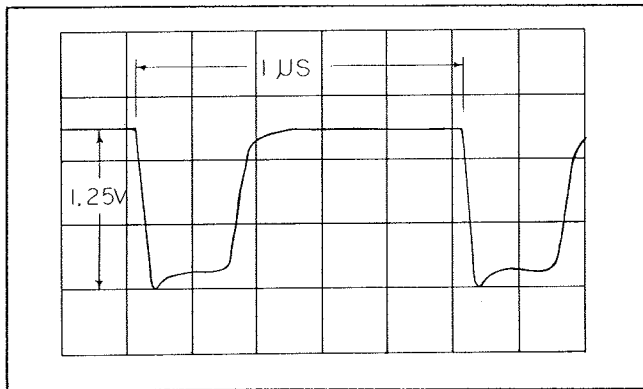
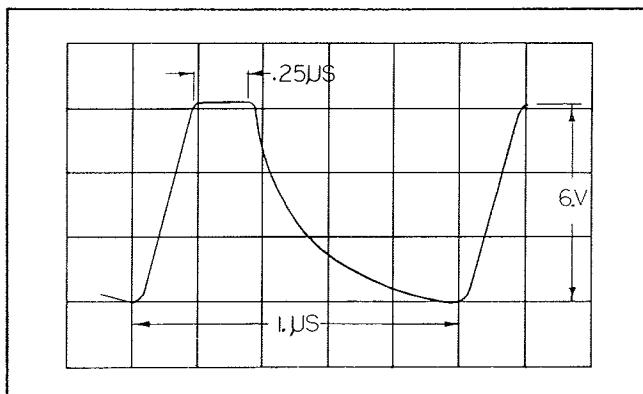

Figure 6.8A - Q1, Base Waveform
Figure 6.8B - Q1, Collector Waveform
b. Reconnect oscilloscope to base of Q1 (left end of R72) the 1 MC waveform should resemble the one shown in figure 6.8A. Reconnect oscilloscope to collector of Q1 (or bottom of R2). The observed waveform should resemble the one shown in figure 6.8B.
c. Connect oscilloscope to the collector of Q1 (or bottom of R2), and adjust R66 for a pulse width of 0.25 usec at the flat top of the waveform. Waveform should resemble figure 6.8B.